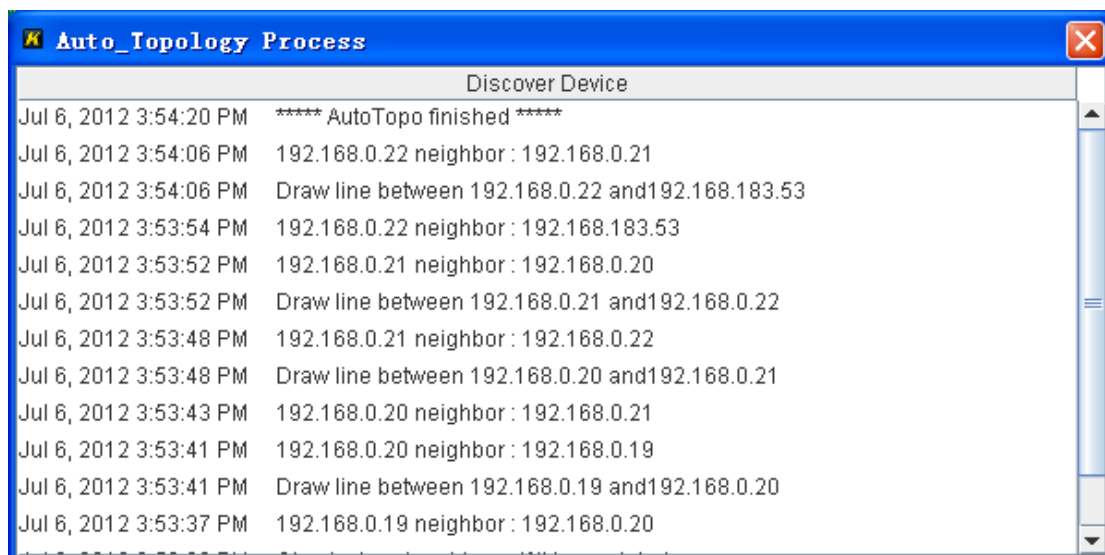

Figure 31 Auto-Topology Process
2. Select Specify IP and enter the IP address in the text box. Click <OK>. The Auto\_Topology Process dialog box is displayed, as shown in Figure 31.